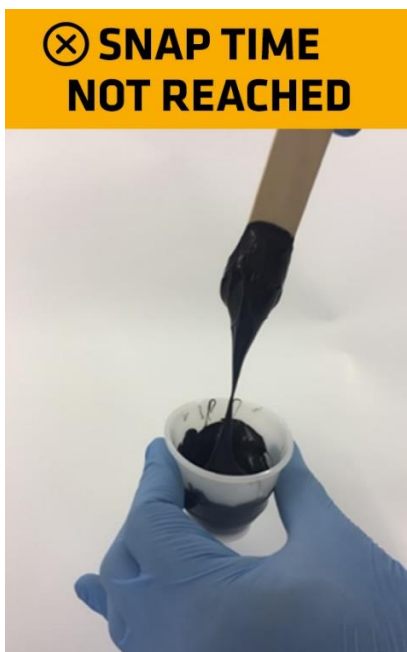
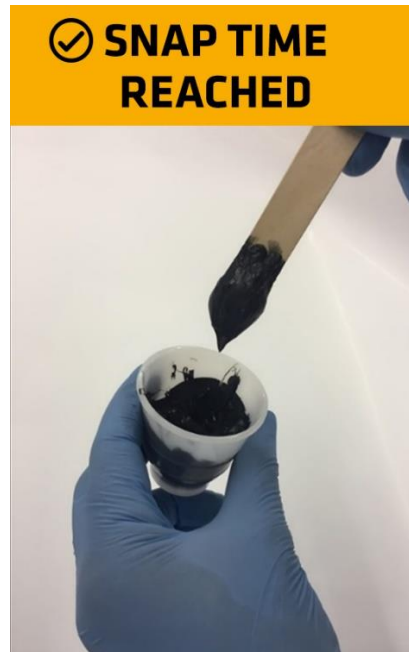

Figure 13: Material shows paste-like behavior: snap time not yet reached
Figure 14: Material shows rubber-like behavior: snap time reached
5. The pot life / snap time is the time from extrusion of the silicone adhesive until the point at which it no longer forms long strings (Figure 13) when the spatula is removed, but breaks off in short length (Figure 14).